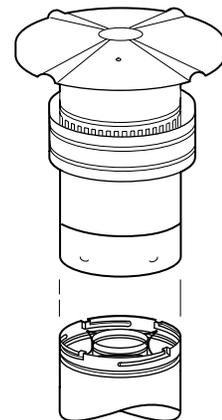

Figure 24
K. Install the vertical termination - The final step involves installation of the SV4.5VTR Vertical Termination. Extend the vent sections to the height as shown in the "Vertical vent termination section" on **page 5**. The SV4.5VTR Vertical Termination (**Figure 24**) installs in the exact same fashion as any other **Secure Vent** section. Align the termination over the end of the previously installed section, adjusting the radial alignment until the four locking dimples of the termination are aligned with the inlets of the four incline channels of the last vent section. Push the termination down until it fully engages, then twist the termination clockwise running the dimples down and along the incline channels until they seat at the end of the channels.